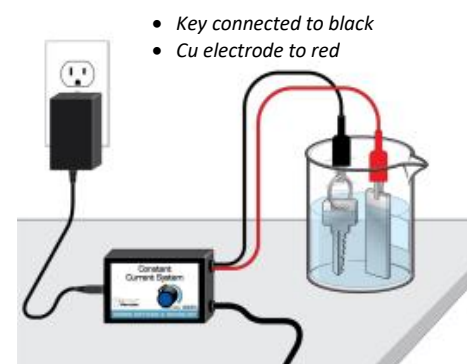

Figure 1
- 7) Gently turn the dial of the Constant Current System counterclockwise to confirm that it is in the minimum current position. Clip the wire handle on the key and the copper strip to the proper leads (See Figure 1). Important: You will not place the electrodes in the cell until Step 10.